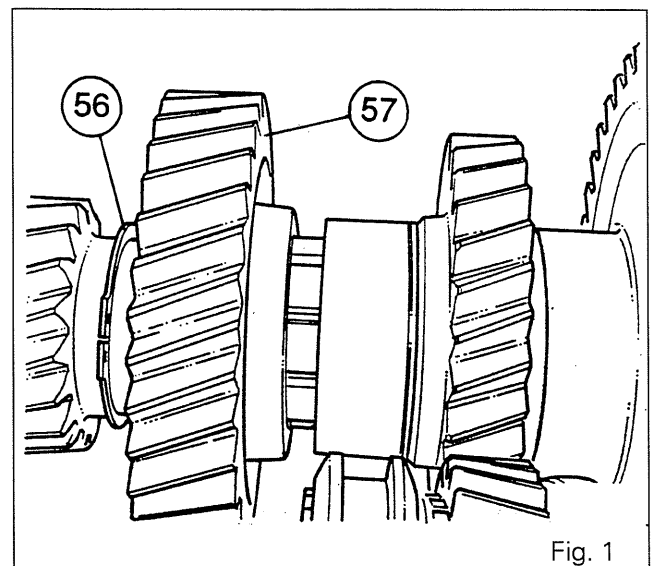

Fig. 1
8. Remove the circlip (56) from its recess on the lay shaft without twisting it. Move the gear backwards (57) (Fig. 1).